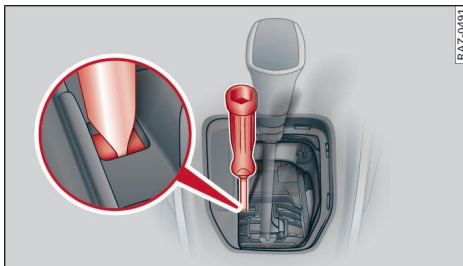

Fig. 88 Manual release mechanism (bottom left)
- ▶ To loosen the selector lever boot, carefully insert the flat-blade side of the screwdriver into the opening at the side of the boot ⇒ *page 100, Fig. 88*.